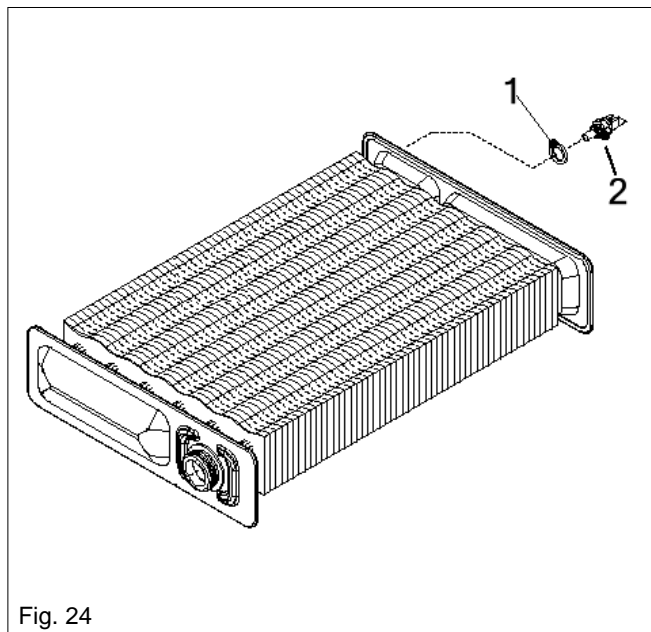

Fig. 24
6.10 PRIMARY THERMISTOR fig. 24